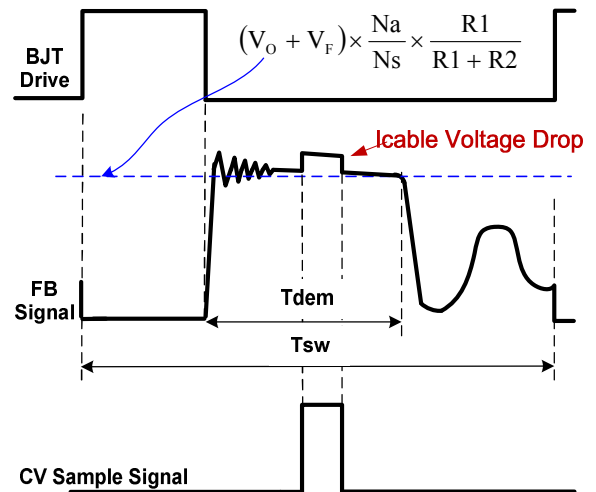

Fig.2
transformer energy to the secondary. Fig.2 illustrates the CV sampling signal timing waveform in DP25135. As shown in Fig.2, it is clear that there is a down slope representing a decreasing total rectifier  $V_f$  and its voltage drop as the secondary current decreases to zero. To achieve an accurate representation of the secondary output voltage on the auxiliary winding, the CV sampling signal blocks the leakage inductance reset and ringing. When the CV sampling process is over, the internal sample/hold (S&H) circuit captures the error signal and amplifies it through the internal Error Amplifier (EA). The output of EA is sent to the Primary Side Constant Voltage Modulator (PSR-CVM) for CV control. The internal reference voltage for EA is trimmed to 2V with high accuracy.
During the CV sampling process, an internal variable current source is flowing to FB pin for Cable Drop Compensation (CDC). Thus, there is a step at FB pin in the transformer demagnetization process, as shown in Fig.2. Fig.2 also illustrates the equation for “demagnetization plateau”, where  $V_o$  and  $V_f$  is the output voltage and diode forward voltage;  $R_1$  and  $R_2$  is the resistor divider connected from the auxiliary winding to FB Pin,  $N_s$  and  $N_a$  are secondary winding and auxiliary winding respectively.